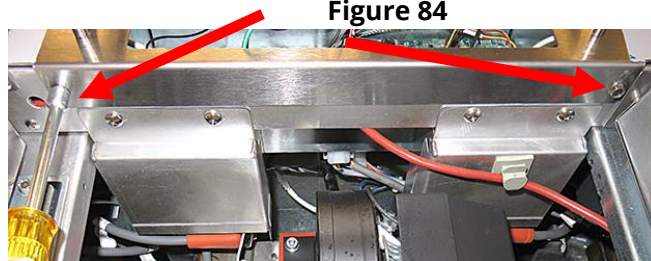

Figure 87
85. Reattach the controller bezel using two (2) screws on the bottom (see Figure 87).